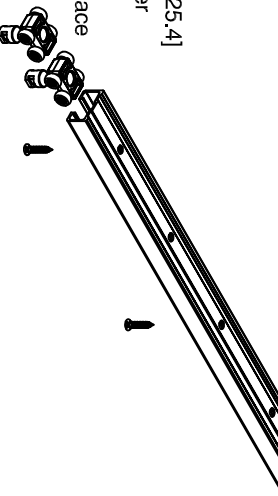

Figure 1
Mount top plates to the top of the door(s) using #10 x 1" [25.4] flat head screws, as shown in Figure 1 (and illustration to the right).
- For by-pass application, space tracks per Figure 1 for door thickness
Adjust door vertically to confirm 3/8" clearance dimension from floor to bottom of door (see figure 1 on page 1).